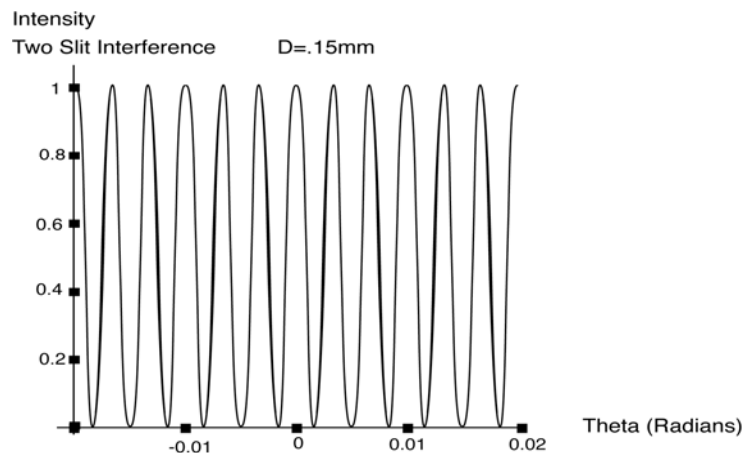
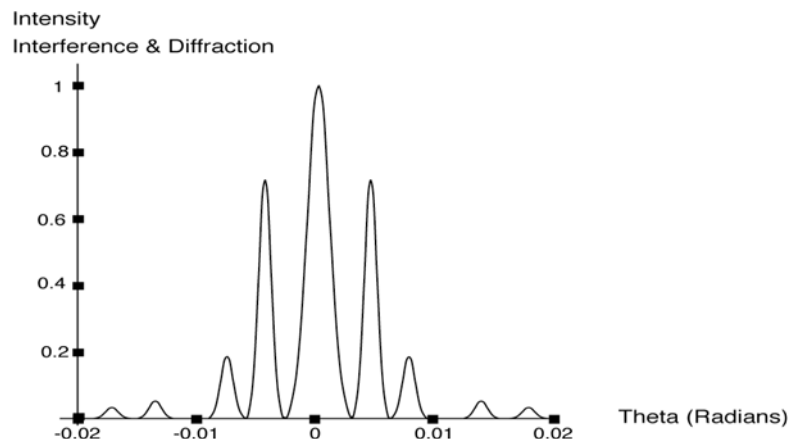

Fig. 3b: Double slit interference pattern.
Fig.3c. Double slit interference-intensity pattern.
3 Interference and Diffraction (Figure 3c)
For **Figure 3c** the slit separation distance is $d = 0.15$ mm and the slit width is $a = 0.05$ mm. The diffraction patterns of the individual slits, shown in **Figure 3b**, are superimposed on the interference pattern. The diffraction graph intensity forms an "envelope" for the interference pattern graph.
3. Compare the intensity pattern of one of the double slits with the sample pattern shown in **Figure 3b**.
4. Why does equation (2) for the double slit interference pattern apply to the multiple slit interference pattern?
5. Even though formulae (1) and (2) *look* alike they mean entirely different things. Explain how they are similar and how they are different.